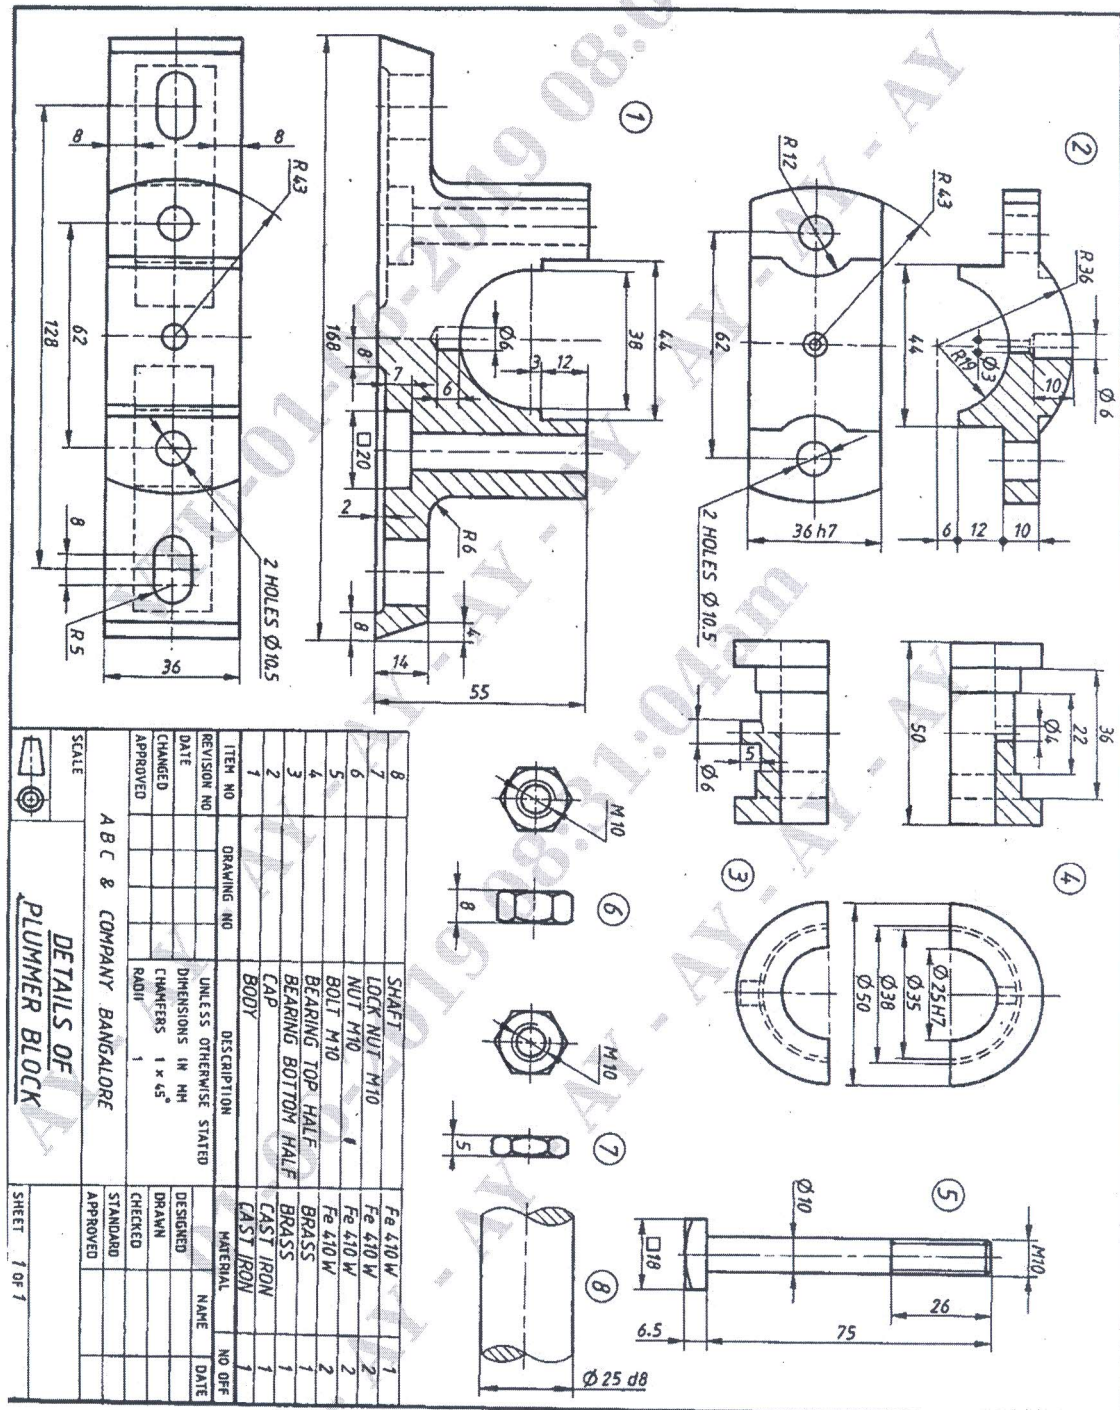

Figure 2:- Plummer Block
5. Figure 2 shows the details of a Plummer block. Assemble the parts of the Plummer block and show the following views.